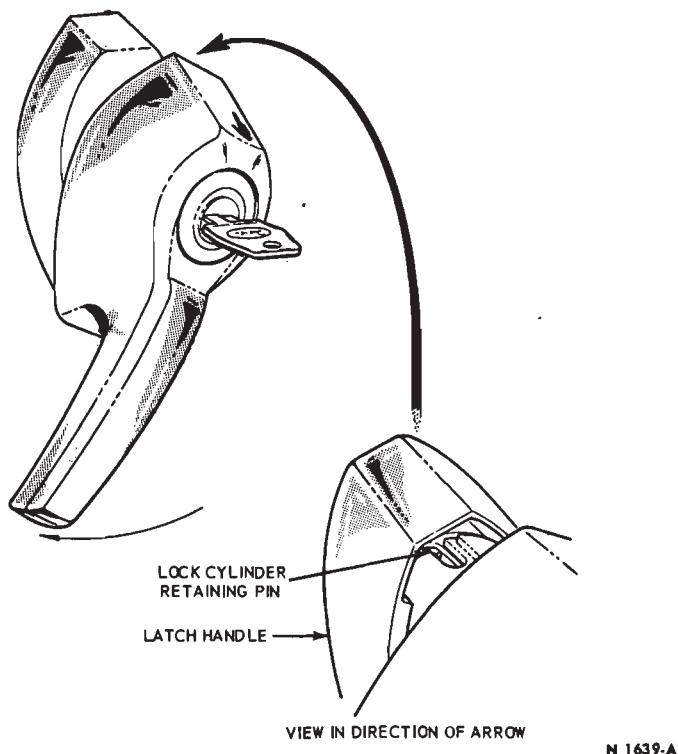

FIG. 10—Tailgate Lock Cylinder Removal—Fairlane and Montego
- Turn the key and latch handle to the full clockwise position. Then, depress the lock cylinder retaining pin (Fig. 10) and remove the lock cylinder from the latch outside handle.